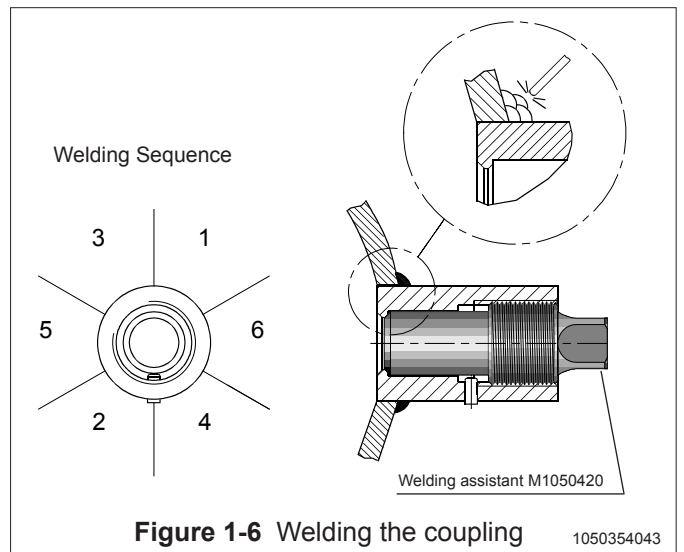

Figure 1-6 Welding the coupling
- Place the coupling in the mounting hole as shown in Fig. 1-6. Then weld with several runs so as to prevent the coupling's oval distortion and tightness problems.
- Insert the analyzer **in a straight line** (Fig. 1-6) into the coupling, so that the guide groove on the transmitter aligns with the stop pin on the coupling. The analyzer settles into position when the groove and pin are aligned, and will be prevented from rotating in the coupling.